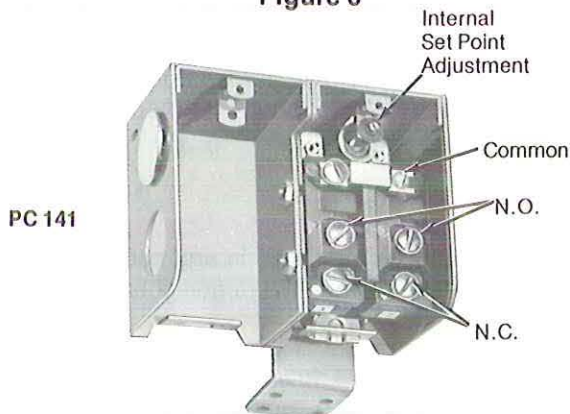

Figure 7
2. PC-141: Refer to Figure 7. Remove cover and turn the adjuster with a screwdriver to move the indicator to the required setting on the scale.